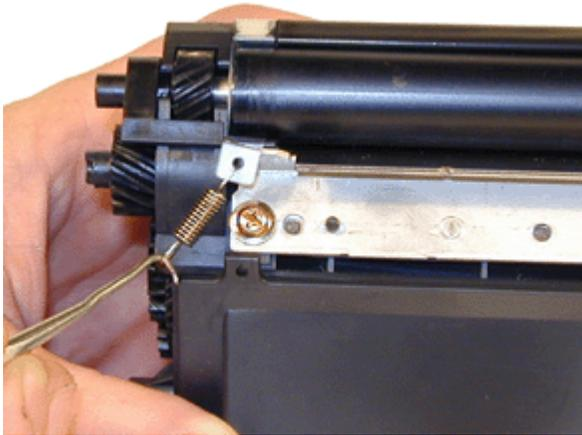

FIGURE 17
14. Remove the two small springs on the developer roller tensioners with the spring hook. See Figure 17.